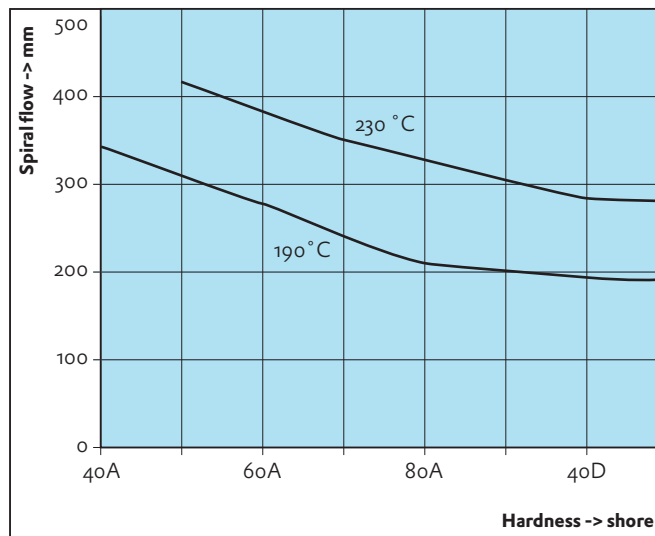

Fig. 1 - The influence of the melt temperature on the spiral flow length* of Sarlink, at a constant injection time of 1 s
- The viscosity of Sarlink thermoplastic vulcanizates is more sensitive to shear than to heat. Figures 1 and 2 show these influences.
- increased flow length (see figure 1)